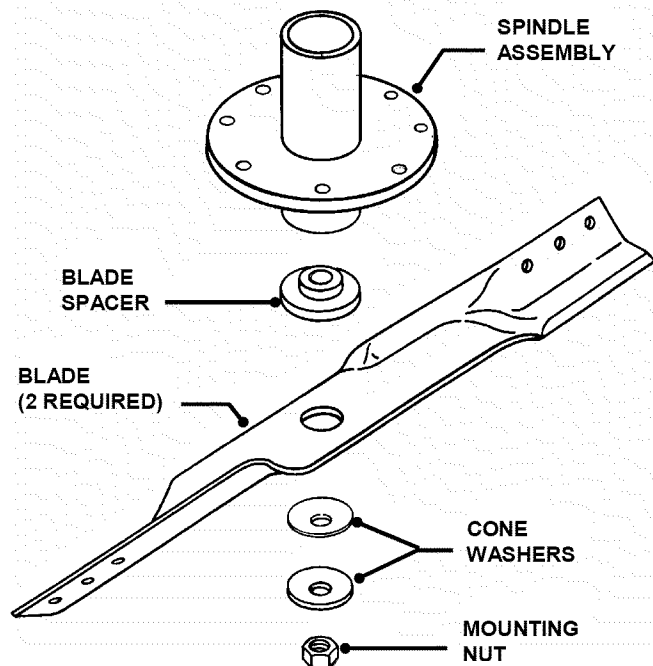

FIGURE 4.28
5. Remove blade mounting nut and cone washer from each blade. See Figure 4.28.